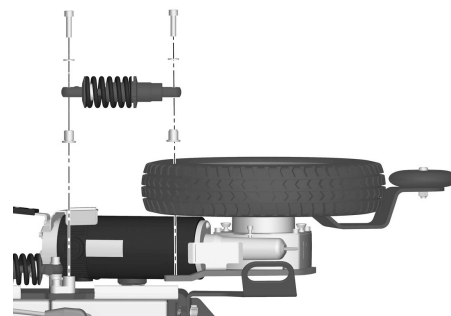

Figure 422. Mounting or removing the front shock absorber.
1. Mount the shock absorber using the two screws and washers. Tighten the screws using a torque wrench. Tightening torque: 17.7 lb.ft. See fig. 422.
5. Remove the shock absorber, it's fitted with two screws and washers and a nut. See fig. 422.